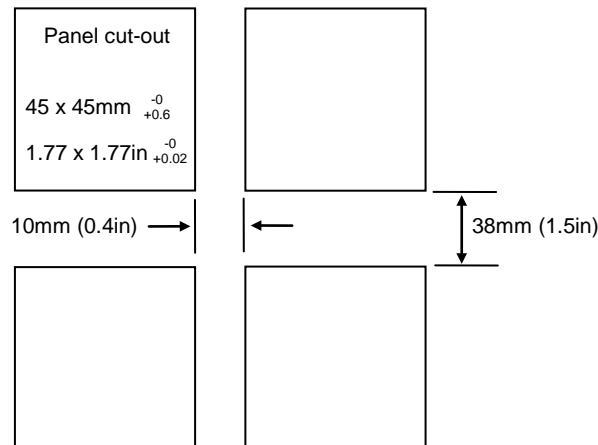

Figure 1-3: Panel cut-outs and minimum spacing
The electronic assembly of the controller plugs into a rigid plastic sleeve, which in turn fits into the standard DIN size panel cut-out shown in Figure 1-3.
1. Prepare the control panel cut-out to the size shown in Figure 1-3.